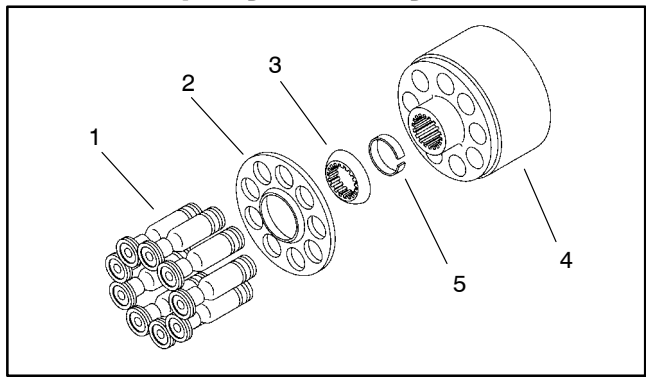

Figure 44
- A. The finish on the piston shoe surfaces of the camplate (11) should show no signs of scoring.
- B. Inspect camplate (11) bushing surface for wear. Also inspect surface for coating transfer from bushing.
4. Inspect bushing (44) for contamination embedment within coating of bushing surface coming in contact with camplate (11).
5. Inspect rotating kit (Fig. 44):